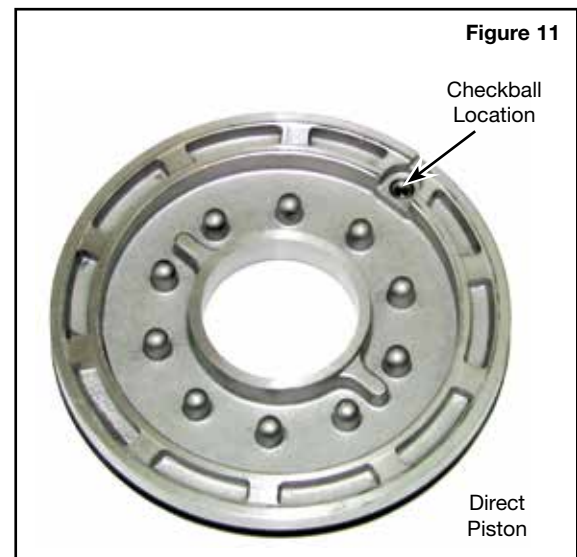

Figure 11
- b. Inspect checkball in direct piston (**Figure 11**), as it is prone to sticking. Clean and flush with solvent or WD-40® and reseal with a small punch and hammer.